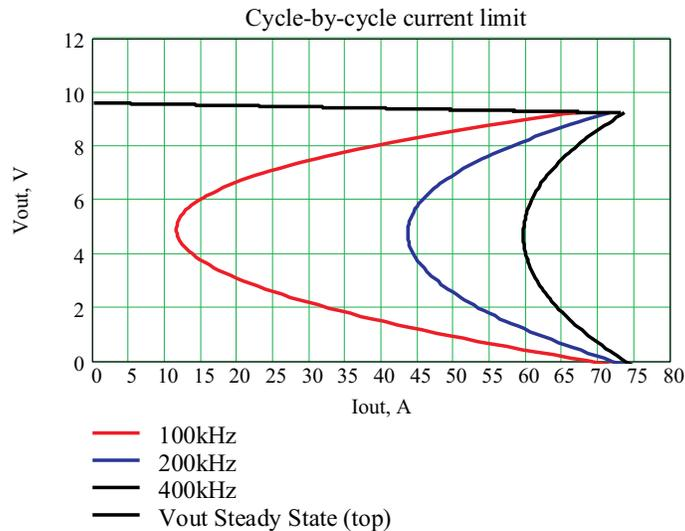

Figure 39. Output Voltage at Cycle-by-Cycle Current Limit
Figure 39 shows the output voltage as function of the average load current limited by the cycle-by-cycle current limit threshold after substituting (9) into (10). These plots are generated for the following conditions:  $V_{IN} = 48\text{ V}$ ,  $N_{TR} = 5$ ,  $L_O = 0.1\ \mu\text{H}$ ,  $L_m = 75\ \mu\text{H}$ ,  $I_{O(lim)} = 73\text{ A}$ ,  $R_{pr} = 25\text{ m}\Omega$  and  $R_{SEC} = 4\text{ m}\Omega$  at  $F_{SW} = 100\text{ kHz}$ ,  $200\text{ kHz}$  and  $400\text{ kHz}$ . This fold back type of behavior limits the start-up capability of unregulated IBC. One can see that at 100-kHz switching frequency and 0.5 duty cycle (i.e.,  $V_O \approx 5\text{ V}$ ), only about 11.5 A average current is available to charge the output capacitor while at 400 kHz, the charge current can be as high as 60 A. The plots in Figure 39 show the required average charge current reflected to the primary side of the converter with  $N_{TR} = 5:1$  for different output capacitor values depending on the selected soft-start time, which do not count extra current drawn by the load itself. Therefore the significant output inductor current ripple not only can trip the peak current mode control current limit circuit to reduce the average output inductor current available to charge the output capacitor, but also can cause the hiccup or latch off of the converter to prevent it from starting at all. Increasing the current limit threshold to allow the normal start up of the converter can cause potential overstress if for some reason the load exceeds its nominal current during the steady state operation.